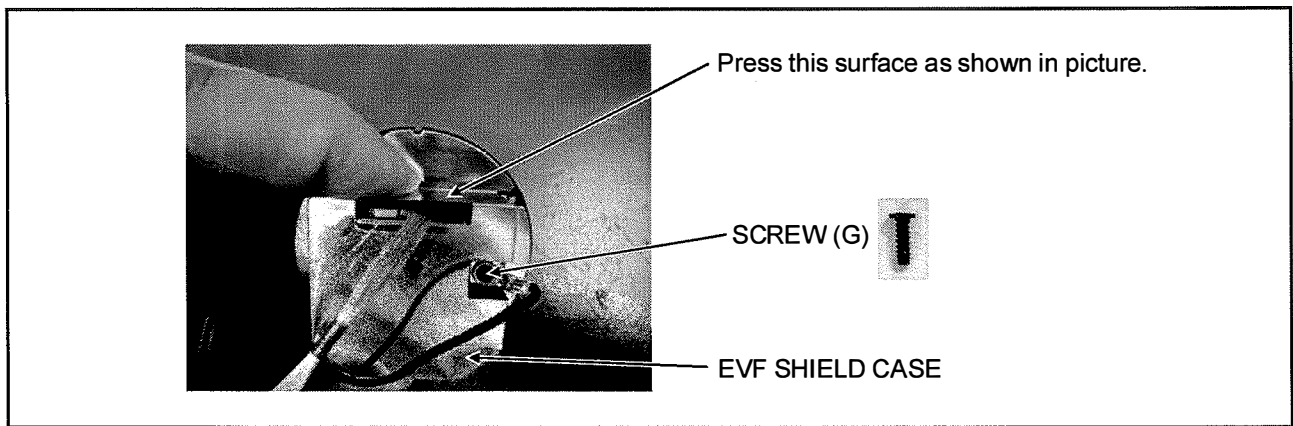

Figure 12-8
1. Tighten a screw (G) while pressing surface of EVF SHIELD CASE as shown in figure 12-8.